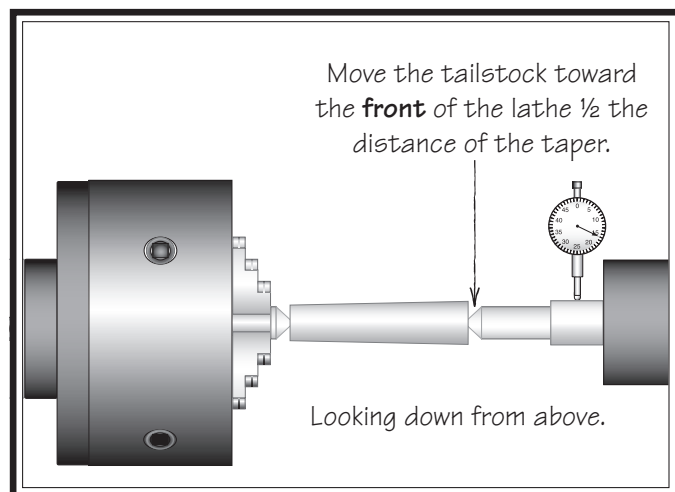

Figure 47. Adjust tailstock toward the operator.
- If the test stock is *thicker* at the tailstock end, move the tailstock toward the *front* of the lathe $\frac{1}{2}$ the distance of the amount of taper (see **Figure 47**).